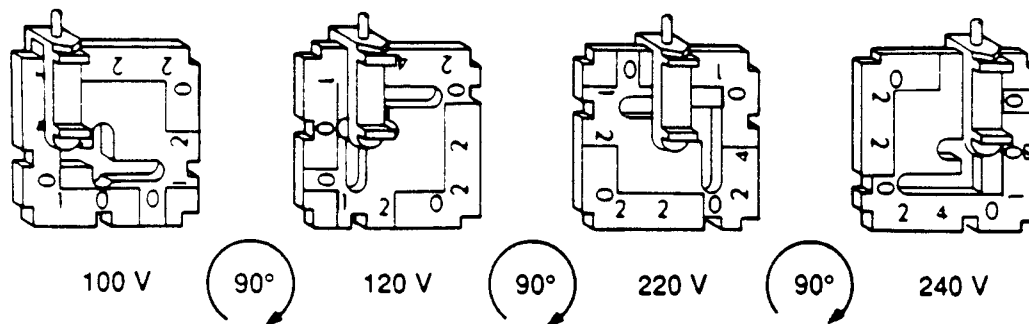

Fig. 2.4. Voltage selection and voltage card orientation.
2. The indicator pin can be moved across the slot located on the voltage selection card. To set the required operating voltage of the interface, orient the indicator pin on the side opposite the printed voltage on the voltage selection card (see Figure 2.4). The indicator pin must slide into the notch located on the outside edge of the voltage selection card.